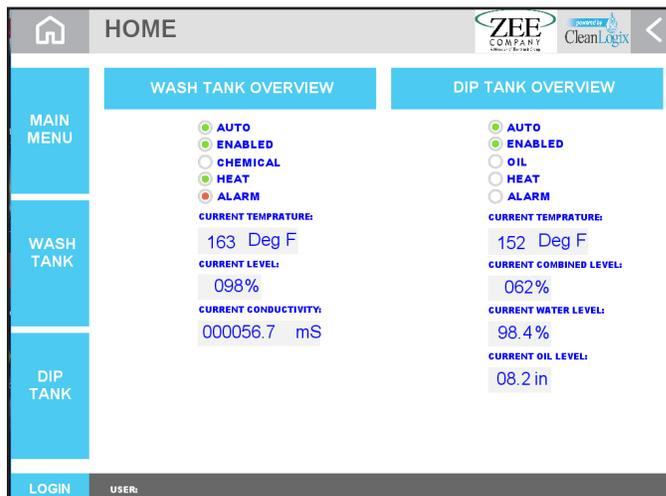

Figure 9.1: Home screen System Overview
2. From this screen a general overview of both systems will be displayed with status indicators and selection options [Figure 9.1]: